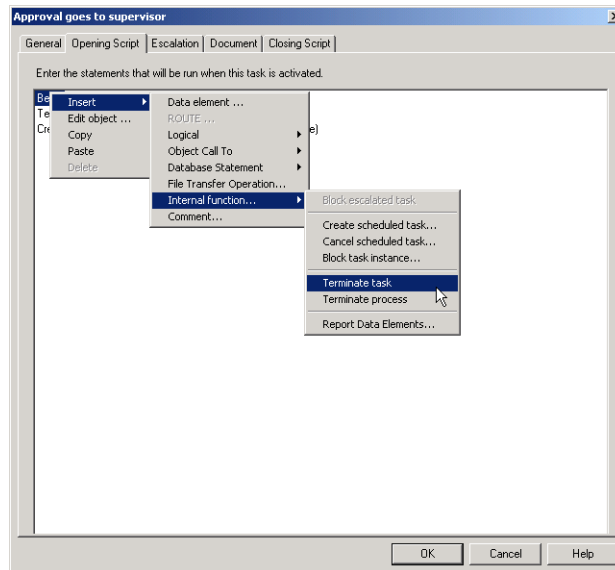

Figure 31-19. Opening Script tab with the Terminate Task function selected.
- 1 To terminate a task, click on the **Opening** or **Closing Script** tab, right-click on a statement, select the **Insert** drop-down menu, select the **Internal Functions** drop-down menu, then select **Terminate Task** (see Figure 31-19, below).